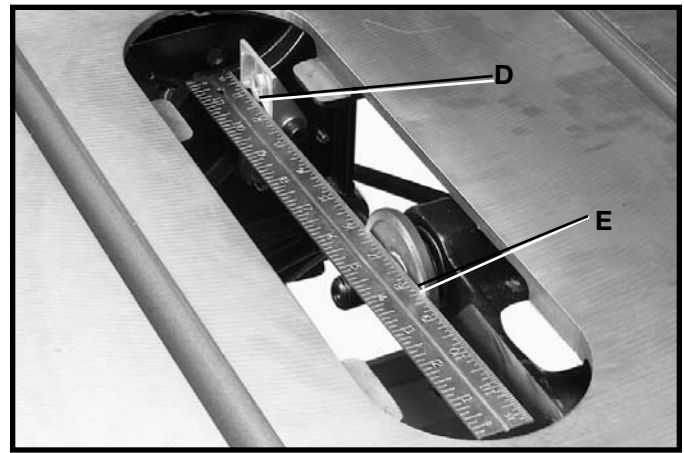

Fig. 28
4. Using a straight edge, check to see if the top and bottom of the inside splitter bracket (D) Fig. 28, is aligned with the inner arbor flange (E), as shown.